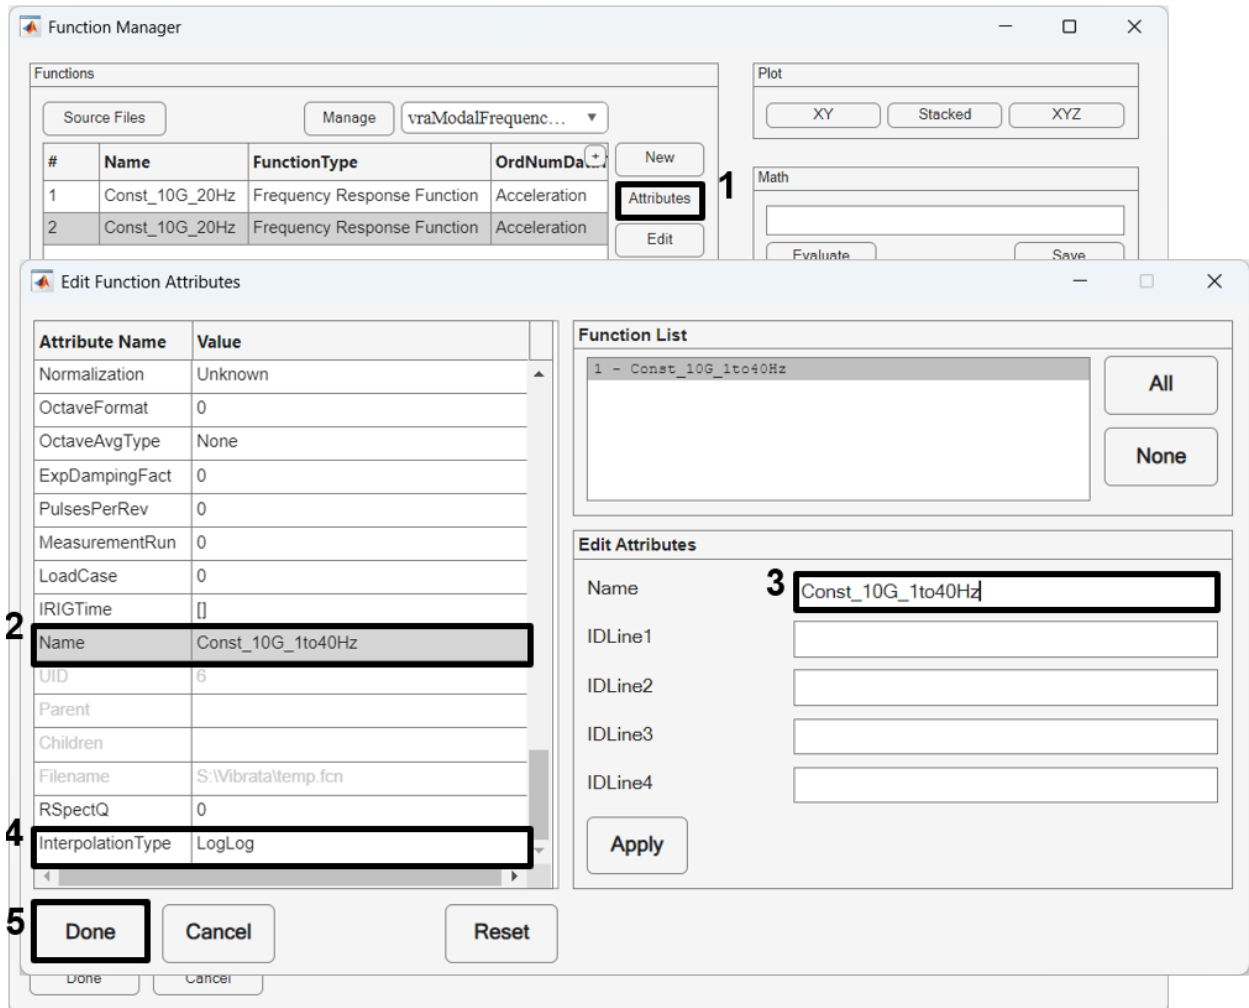

Figure 4-29. Edit the new function's name and make it use log-log interpolation.
- c. With the new function still selected, click the **Attributes** button to open the *Edit Function Attributes* dialog; change the interpolation method to *LogLog* and its name to "Const\_10g\_1to40Hz" (Figure 4-29). Click **Done** to close the dialog and save the changes.